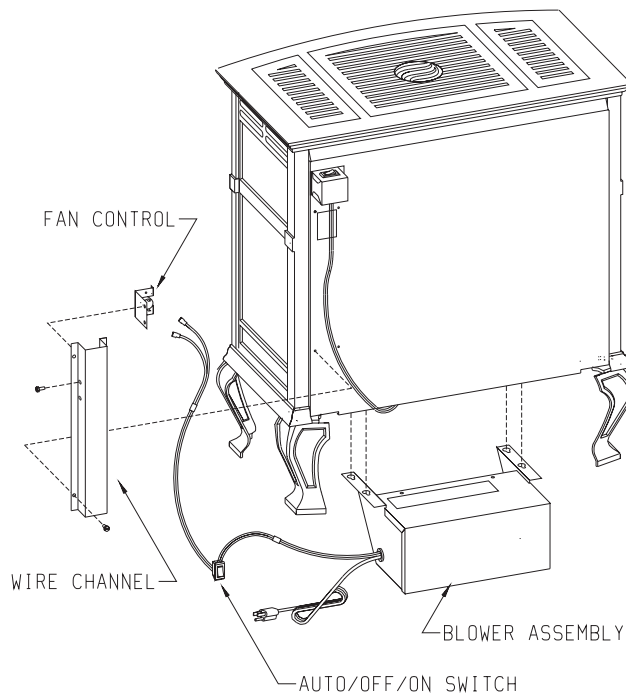
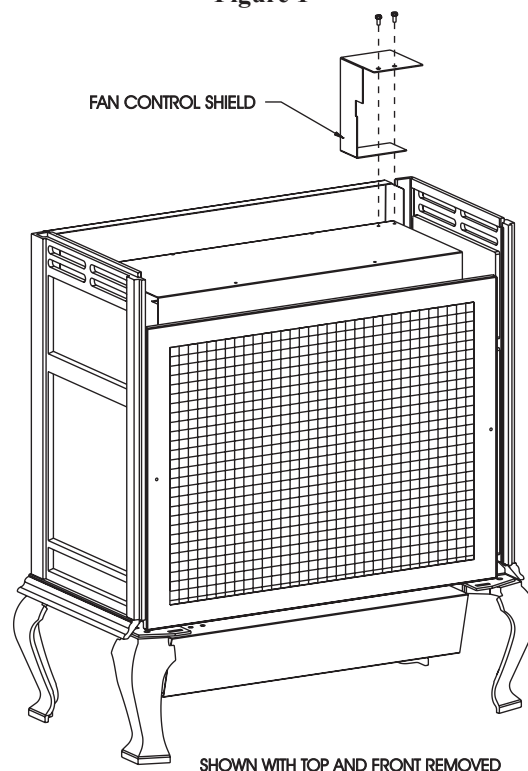

Figure 1
Figure 2
1. Loosen, but do not remove, (4) hex-head screws located on the exterior, bottom of the appliance.
2. Position the blower assembly at the rear of the appliance. The blower assembly has (4) keyholes for attachment to the exterior, bottom of the appliance.
3. Place the large diameter holes in the keyholes over and behind the (4) hex-head screws that were loosened in Step 1. Push inward on the blower assembly to lock the keyholes into position behind the screws. Tighten (4) hex-head screws to secure blower assembly to exterior, bottom of the appliance. (Refer to Figure 1)
4. Remove wire channel from rear cover by removing (4) hex-head screws. Note: If optional blower is being installed during initial installation of appliance, the wire channel will not be attached to rear cover. (Refer to Wire Channel Installation, Page 13)
6. If optional stone inlay is installed in casting top, remove the 12" x 19 3/8" heat shield from the heat exchanger top by removing (4) 1/2" hex-head screws.
8. Attach fan control shield to top of inner body with (2) #10 x 1/2" screw provided in hardware package. (Refer to Figure 2)
9. If applicable, attach 12" x 19 3/8" heat shield to heat exchanger top with (4) 1/2" hex-head screws from Step 6.
11. Attach fan control to FLAT, fan control bracket (Part 9A, Page 26) with (2) 6 x 1/4" screws provided in hardware package.
12. Attach fan control with bracket onto the wire channel by using (2) 8 x 1/4" screws provided in hardware package.
15. Attach wire channel to rear cover by using (4) hex-head screws removed in Step 4. (Refer to **Wire Channel Installation**, Page 13)